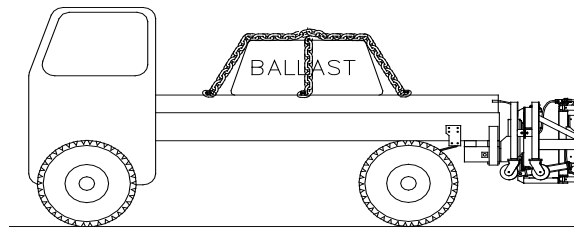

Figure 9
8. Ballast and other heavy objects **MUST BE ADEQUATELY ANCHORED** to the truck to prevent shifting during an impact as the force on the tie-down straps could be 20 times ballast weight (Figure 9).